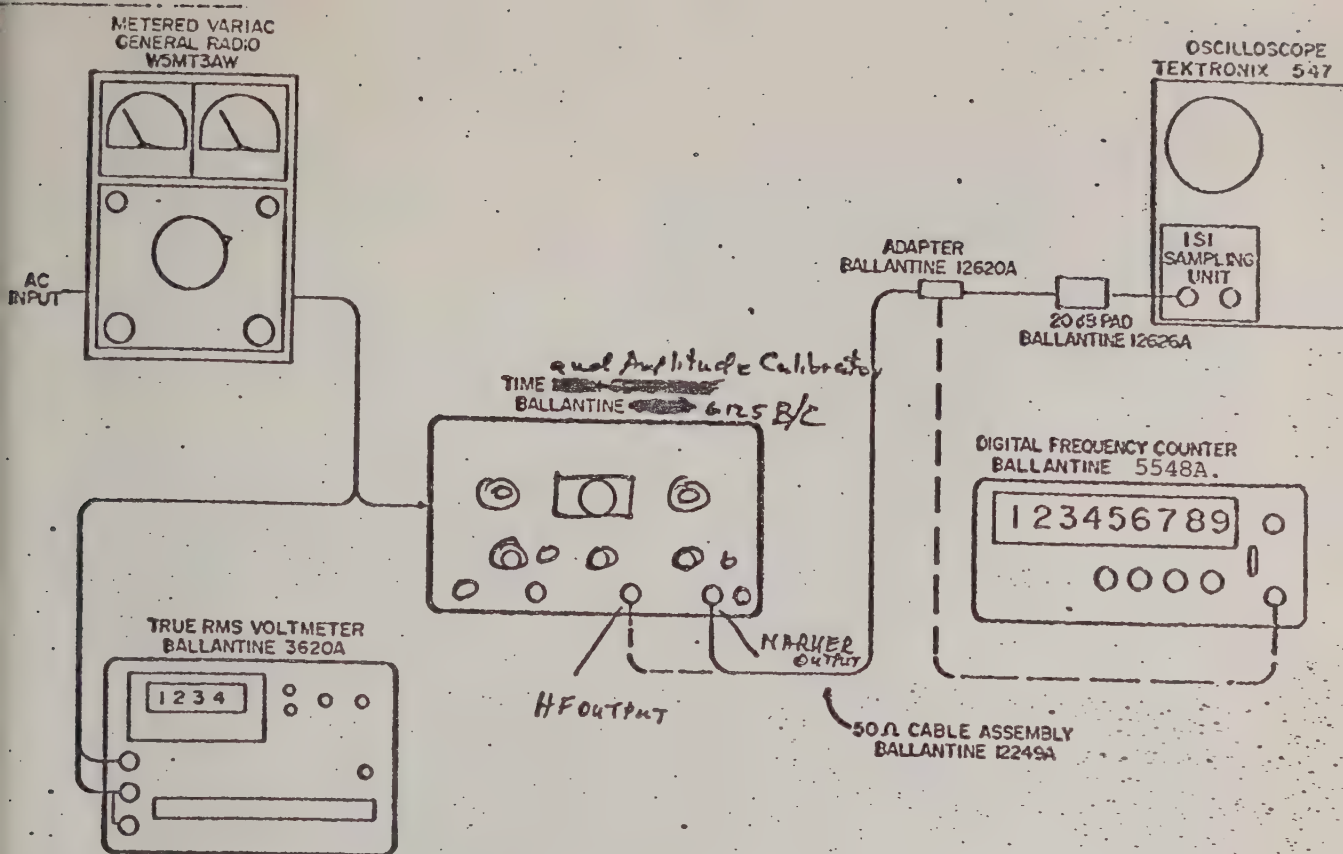

Figure 5-4. Trigger Rise Time and H.F. OUT Check, Bench Test Setup
a. Interconnect the generator and the test equipment as shown in Figure 5-4.
a. Continue with the test setup shown in Figure 5-4. Disconnect the cable from the TRIGGER OUT connector and reconnect it to the H.F. OUT 5 ns connector. Set the sampling oscilloscope time base to 5 ns per cm. Obtain a stable sine-wave display on the oscilloscope.
c. Observe a sine wave for each graticule line to indicate that the H.F. OUT frequency is 5 ns. Then, disconnect the short BNC cable of the BNC to GR adapter and connect it into the 50-ohm (B) input of the 500 MHz frequency counter. Set the counter to 1 second for a nine-digit display. Observe that the counter reads in the range of 200,001,601 to 199,998,399 Hz. Reconnect the BNC cable to the oscilloscope.
- a. Interconnect the generator and the test equipment as shown in Figure 5-4.